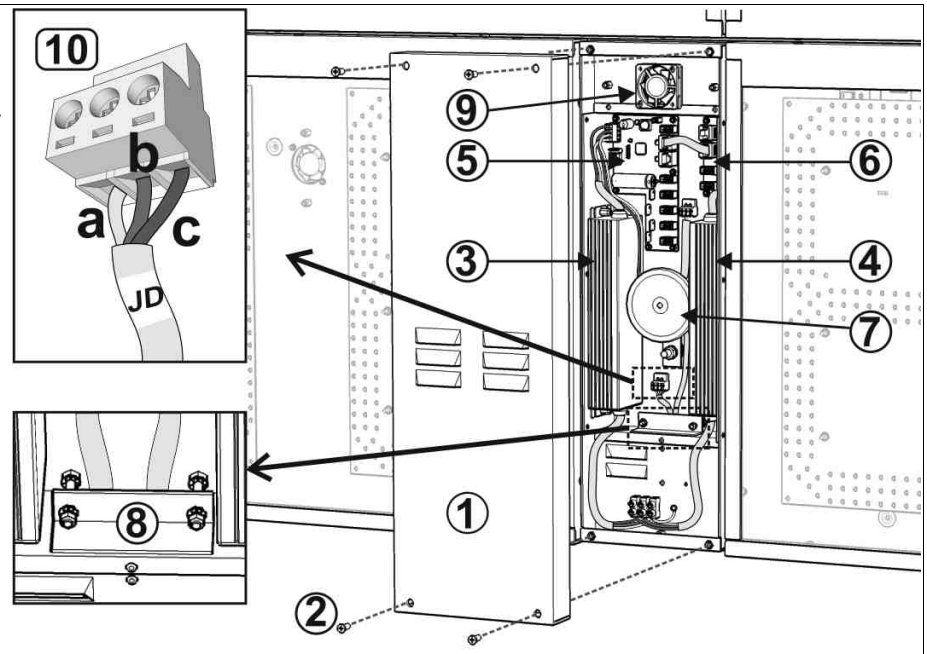
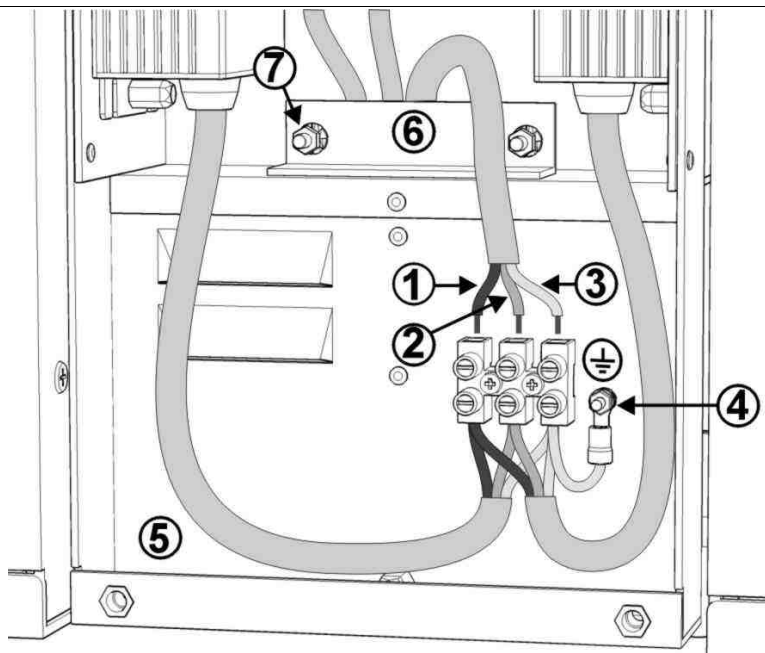

Fig. 11: Interior view of POWER SUPPLY module
Fig. 18: Connecting the power supply cable to the **POWER SUPPLY** module
4. Remove the front of the **POWER SUPPLY** module by unscrewing the 4 fastening screws (see Fig. 11).
5. Allow for the previously introduced cables to pass under the horn and insert them into the connectors of the boards, following the directions at the bottom of the module (Fig. 11 and Fig. 19). Connect each cable to one of the connectors of the board labeled with the same label. For example, connect the cable labeled 'JD' to one of any of the connectors on the board labeled 'JD'.
6. Tighten the nuts of the cable clamps to firmly fasten the cables (Fig. 11, number (8)), then close the module with the front piece.
1. From the **POWER SUPPLY** module remove the front piece and the rear cable entry conduit cover (Fig. 10, Fig. 11), then loosen the screws of the cable clamps (Fig. 18).
3. Introduce the permanent power supply cable and connect the wires, terminating with the proper pin terminals, to the screw terminals as indicated in Fig. 18.
5. Secure the cable clamps by tightening the two nuts (Fig. 11, Fig. 18), making sure that the cable cover is properly closed to prevent insects from entering. Then close the front piece and the rear cover of the **POWER SUPPLY** module.
- if with a multimeter you discover there is no power supply at the terminals (see Fig. 18), check the power supply cable;